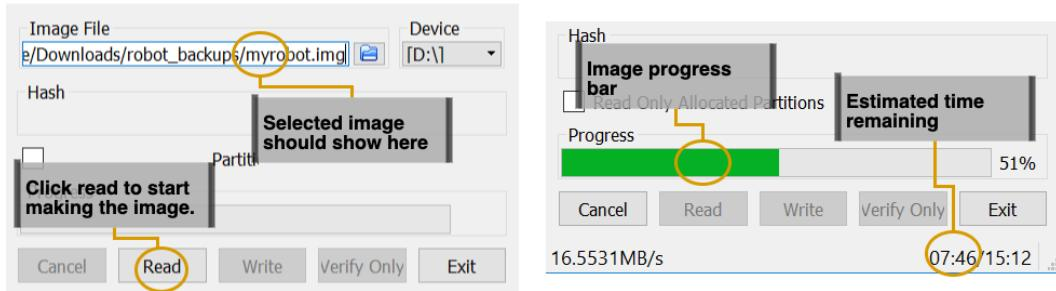

Figure 5.6 – Reading the image
5. After clicking **Open**, you'll see a screen like the left side of *Figure 5.6* with your selected location in the **Image File** box. Click on the **Read** button to start copying the image. As it reads the image, you'll see a progress bar and an estimation of the time remaining. When the image is done, Win32 Disk Imager will tell you that the read was successful, and you can then exit the software: